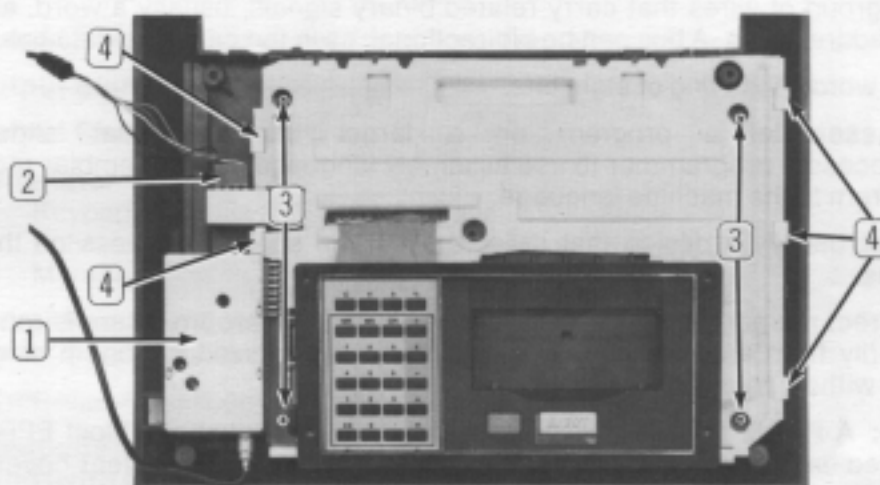

Fig. 2—UNIT WITH TOP REMOVED
3. On the left side of the unit you will see the R. F. Modulator, (figure 2 item 1) and the four (4) wire power connector (figure 2 item 2). Remove the R. F. Modulator by lifting up on the left side of it and pulling outwards to the left. The power connector can be removed by pulling it towards the rear of the unit.
4. Using a magnetized phillips screwdriver remove the four (4) screws in the corners of the board (figure 2 item 3). At this time the game board and keypad/cassette assembly can be removed from the bottom of the cabinet.
5. Remove the silver clips that are attached to the edges of the shielding (figure 2 item 4). After the clips are removed the metal shielding on the bottom of the game board can be removed.